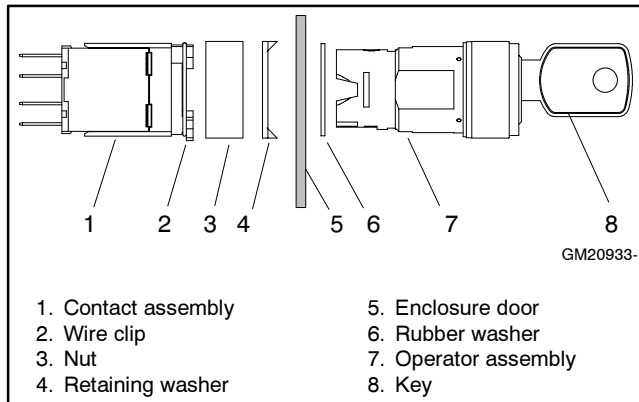

Figure 6 Selector Switch Components
- 2.4 Place a small slotted screwdriver at either corner of the wire clip and pry up slightly to separate the contact assembly (GM20929) from the operator assembly (GM20926) part of the switch assembly, if connected. See Figure 6.